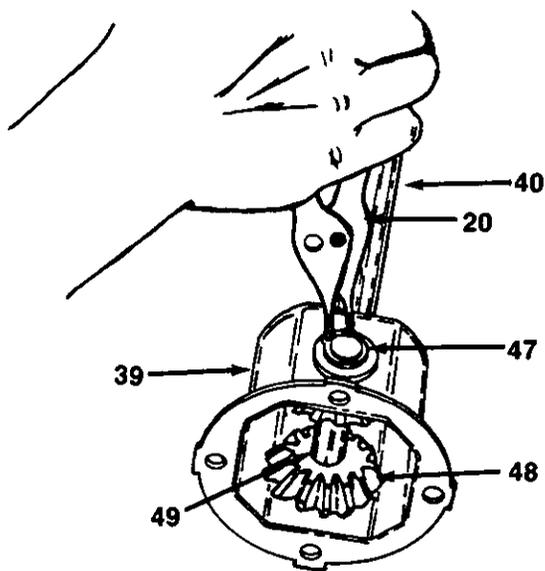

FIGURE 21.
20. To complete disassembly of differential, remove the snap ring on one end of cross shaft; this will allow you to remove the miter gears on cross shaft. See figures 21 and 22.